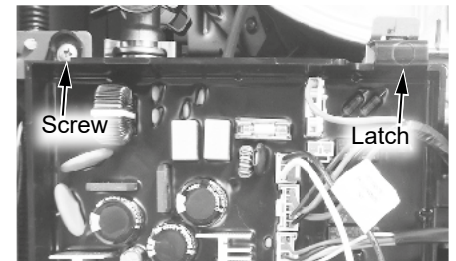

Figure 3 - Control Board screw location
- 13 Locate the two (2) screws at the bottom of the cabinet cover. Use a Phillips screwdriver to remove the screws. Place screws aside in a safe place for reinstallation.
- 15 Locate the screw securing the control board panel. Use a Phillips screwdriver to remove the screw and place it aside in a safe place for reinstallation. See Figure 3.